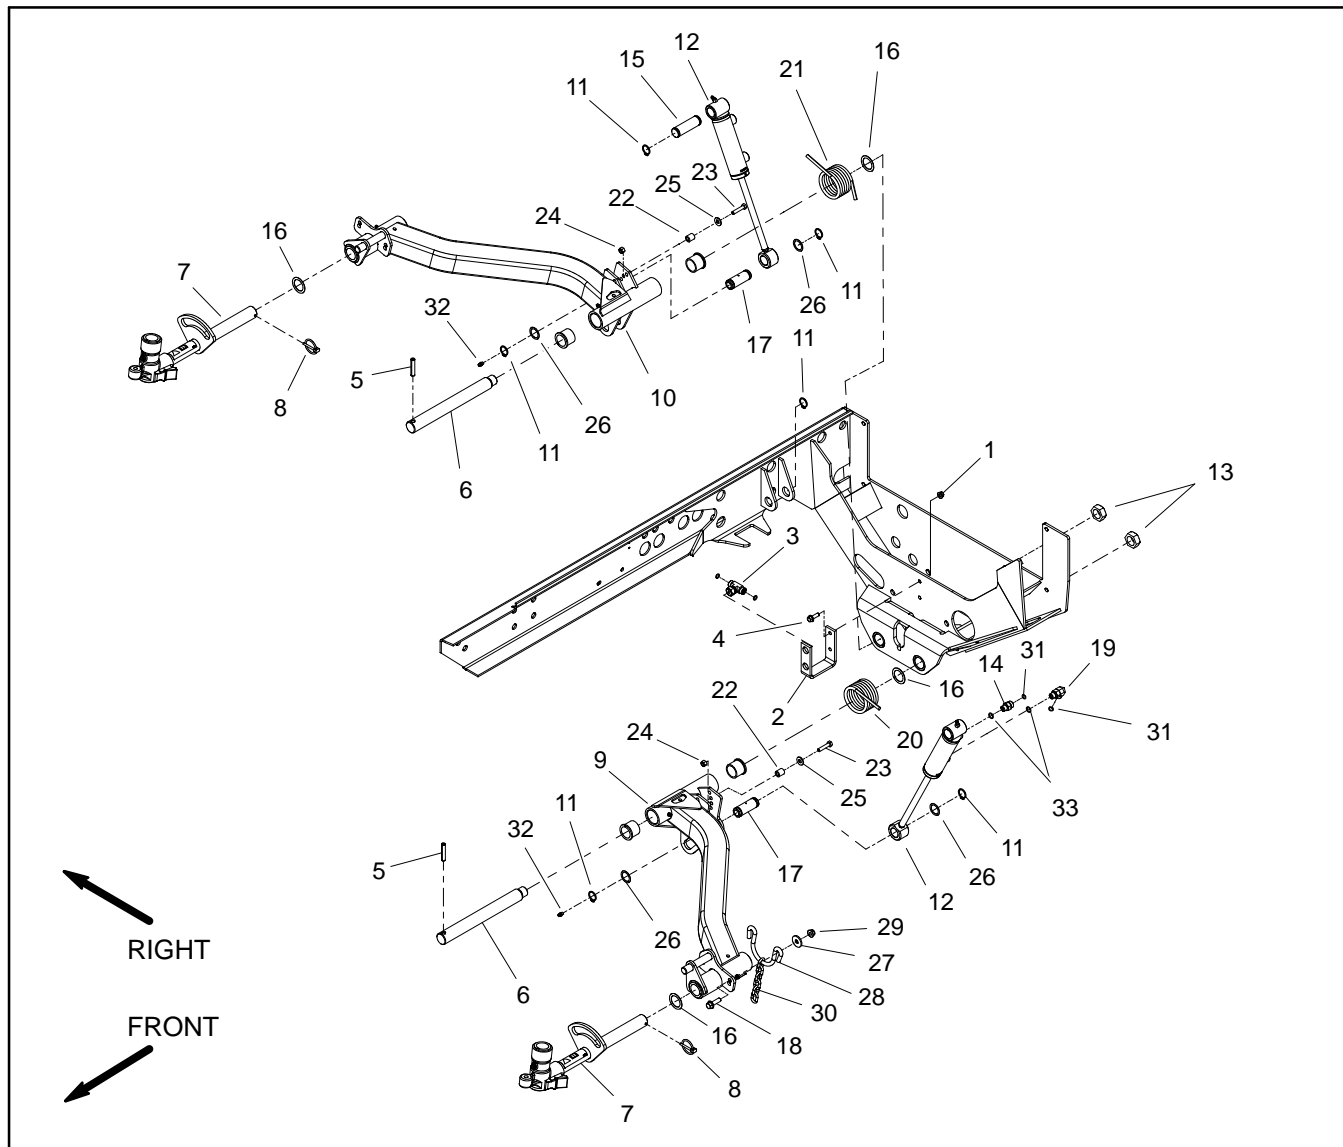
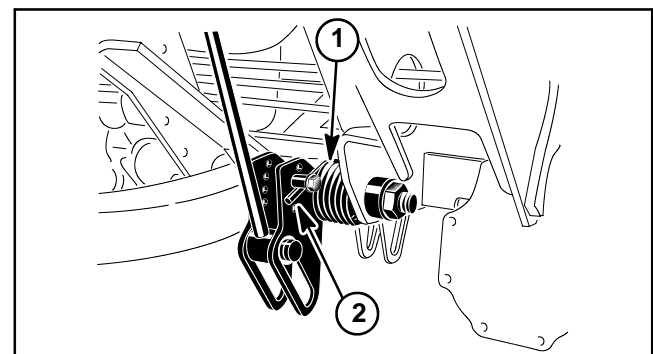

Figure 9
Figure 11
### Removal (Fig. 9)
4. Remove tension from torsion spring on rear of lift arm tube (Fig. 11):
5. Loosen and remove lock nut (item 13) from lift arm pivot pin.
6. Support lift arm and pull lift arm pivot pin from lift arm and frame. Locate and remove thrust washer (item 16) from rear of lift arm during pivot pin removal.
8. Disassemble lift arm as needed using Figure 9 as a guide.
### Installation (Fig. 9)
3. Position lift arm to frame (Fig. 9). Fit thrust washer (item 16) between rear of lift arm and frame. Slide pivot pin into frame and lift arm. Align roll pin in pivot pin with slot in frame flange.
4. Install and tighten lock nut (item 13) to secure lift arm pivot pin.
6. Make sure that one (1) retaining ring and washer are installed on cylinder pin (item 17). Insert cylinder pin through the lift arm and lift cylinder clevis. Secure pin with second washer and retaining ring. Make sure that retaining ring is fully seated in pin.
7. Apply tension to torsion spring (Fig. 11):